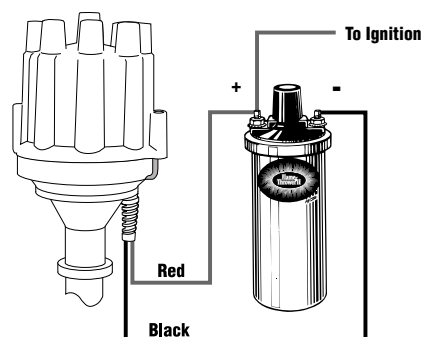

FIGURE 1
2. Attach the black Ignitor II wire to the negative coil terminal. Attach the red Ignitor II wire to the positive coil terminal. **(See Figure 1)**